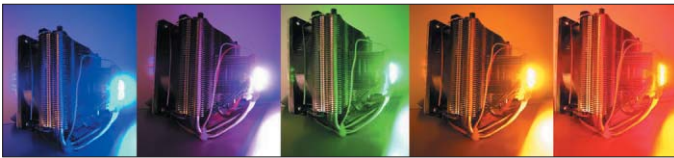

Fig. 3. Digital light: Enfis MW-LED light engines using RGB color mixing to generate instant color changing over a wide color range.
- entertainment/stage and architectural lighting (figure 3 shows an Enfis MW-LED RGB light engine providing approx. 10,000 lm)